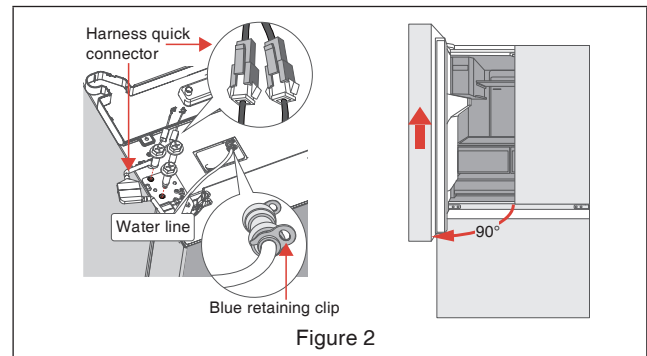

Figure 2
D. Open the left door 90°, lift it up, then remove the door from the product. See Figure 2.